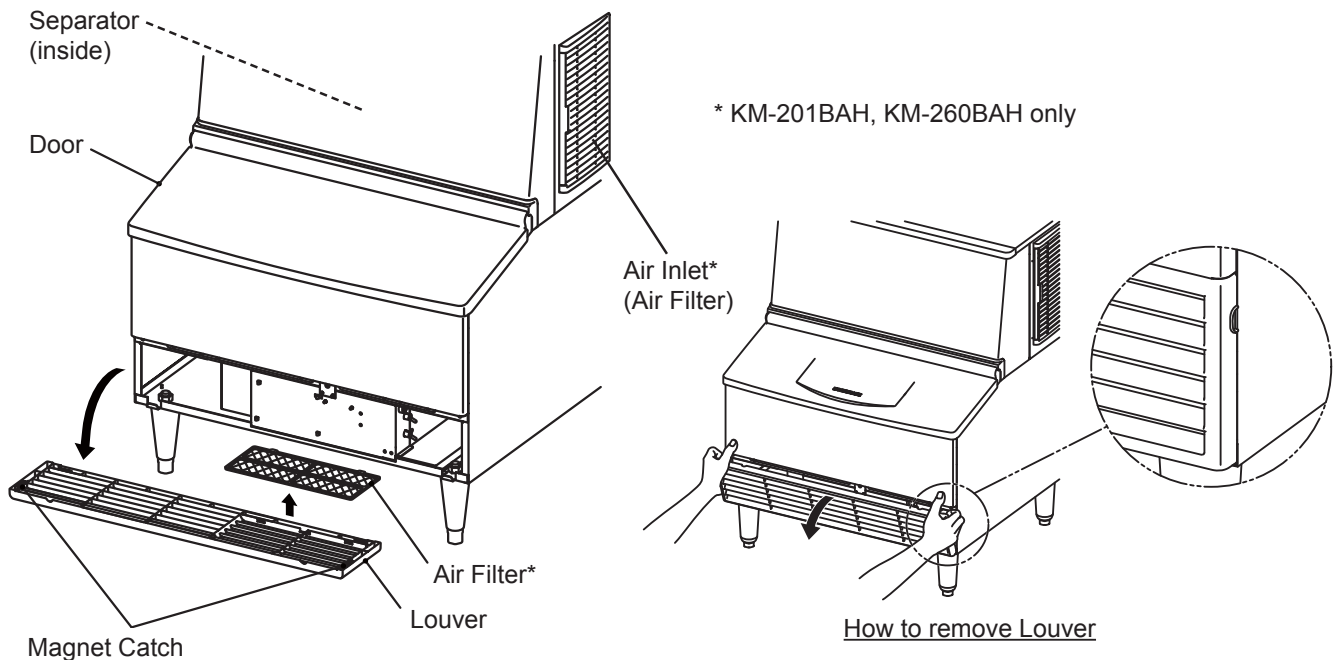

Fig. 1
- Remove the shipping tapes holding the door and separator. See Fig. 1.
B. How to Remove Louver - See Fig. 1